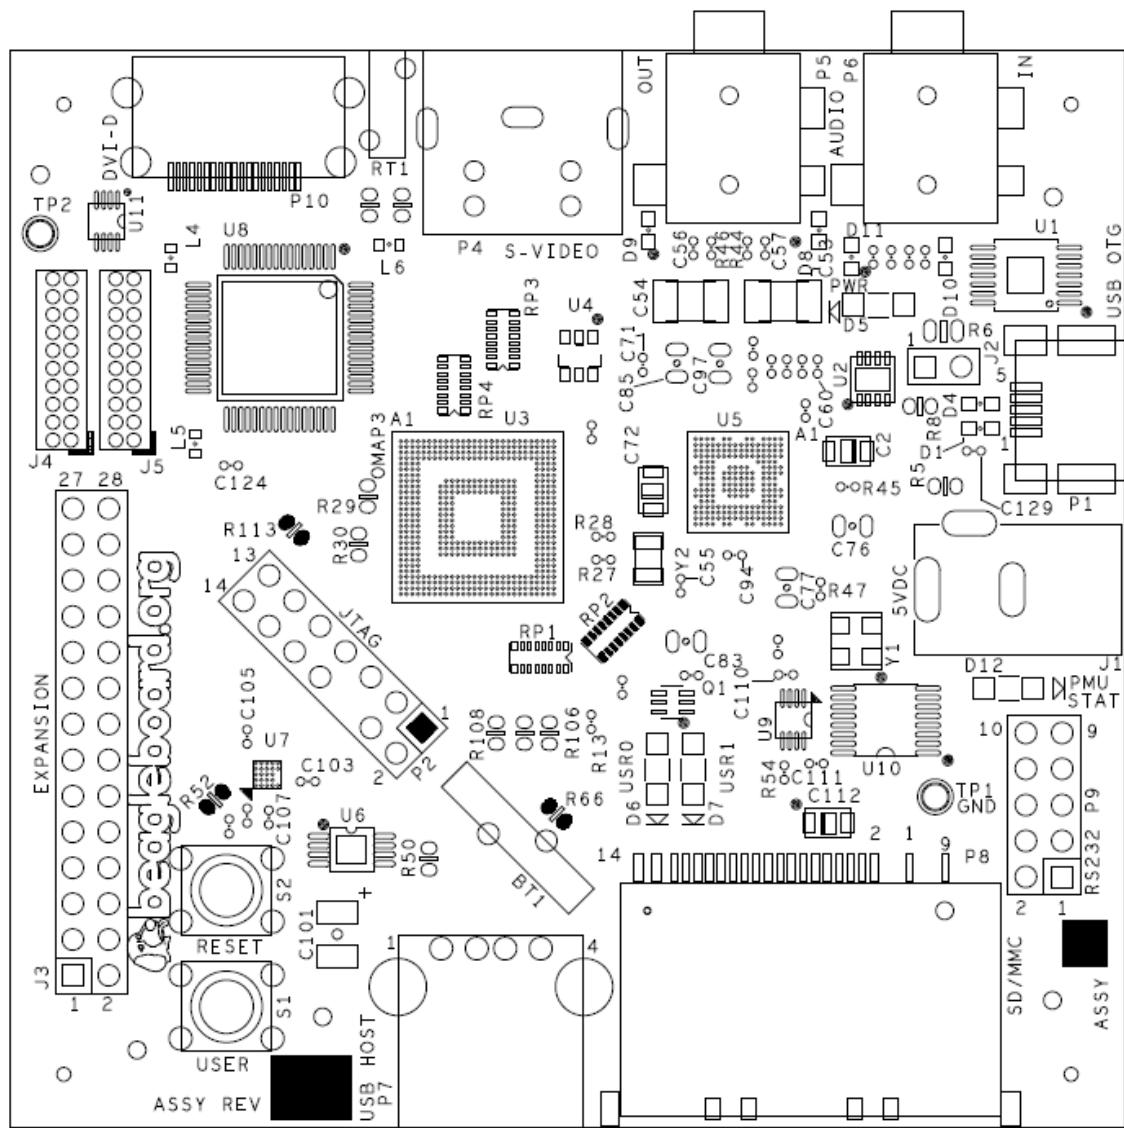
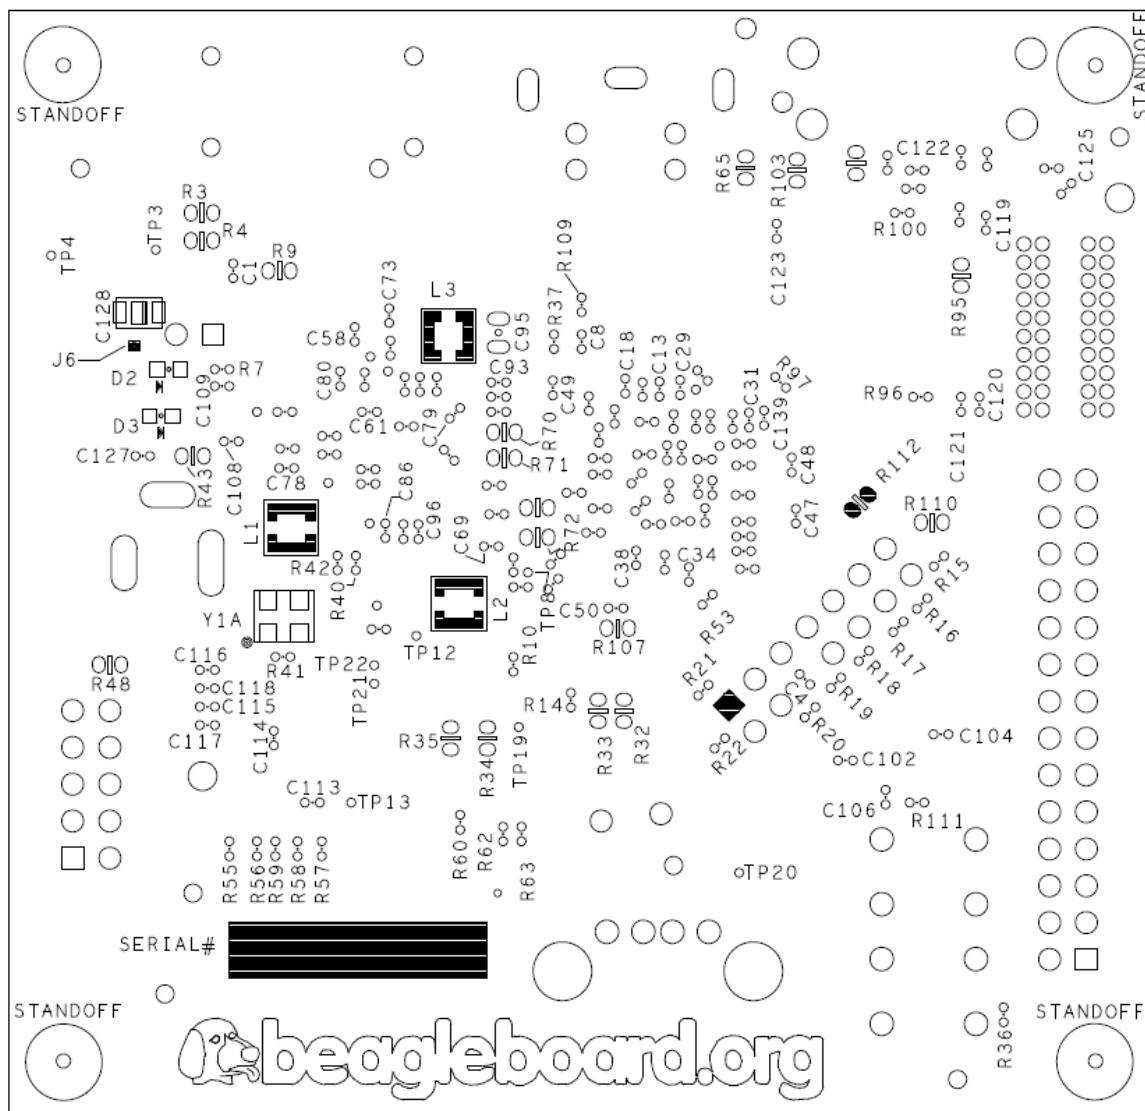

Figure 84. BeagleBoard Top Side Components
Figure 85. BeagleBoard Bottom Side Components
3. You must have a Null Modem cable to connect to a PC. This results in the TX and RX leads being swapped, connecting the TX of the BeagleBoard to RX of the PC and RX of the BeagleBoard to TX of the PC. This cable also must be a female to female cable as the connectors on the BeagleBoard and PC are male. **Figure 84** shows the DB9 male connector and **Figure 85** shows the Null Modem Cable.
Figures 85 and **Figure 86** contain the bottom and top side component locations of the BeagleBoard.